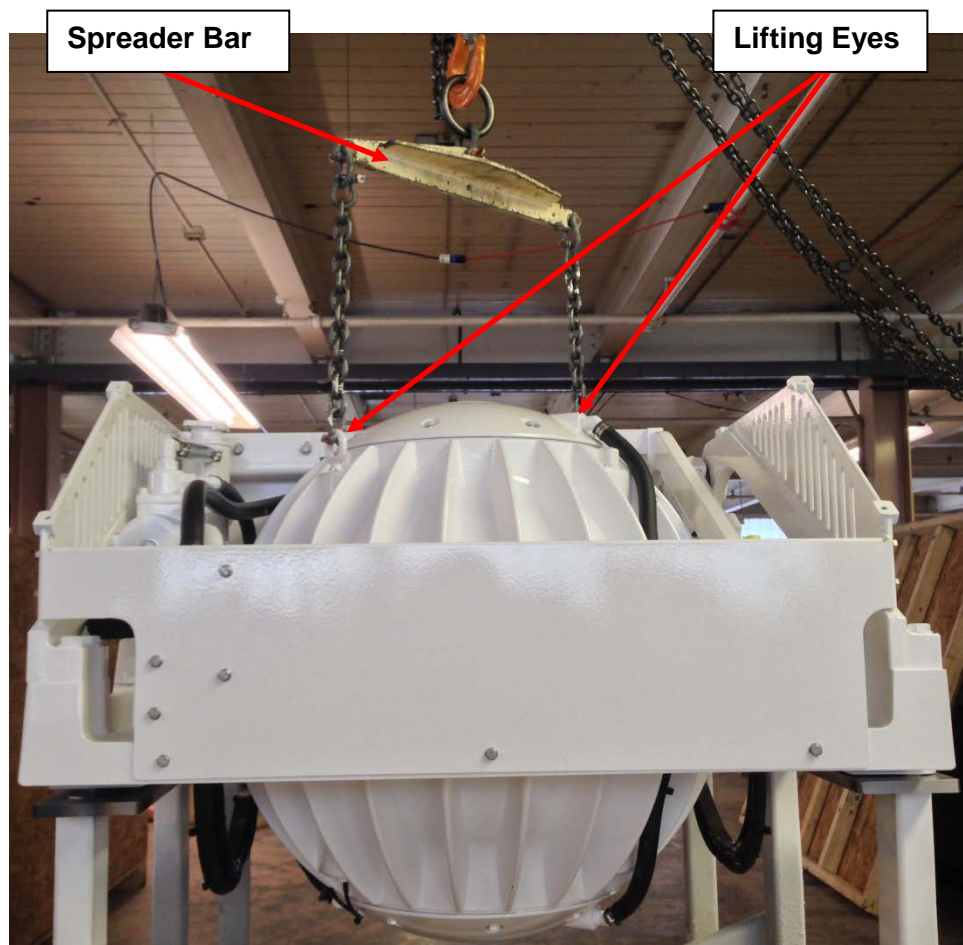

FIGURE 4 – LIFTING ARRANGEMENT
- 4) Attach spreader bar (Seakeeper #11015) to the two lifting eyes located on the top of the Seakeeper enclosure. Stay clear of any other parts on the Seakeeper. The Seakeeper 9 weighs 549 kg (1210 lbs). See Figure 4 below.